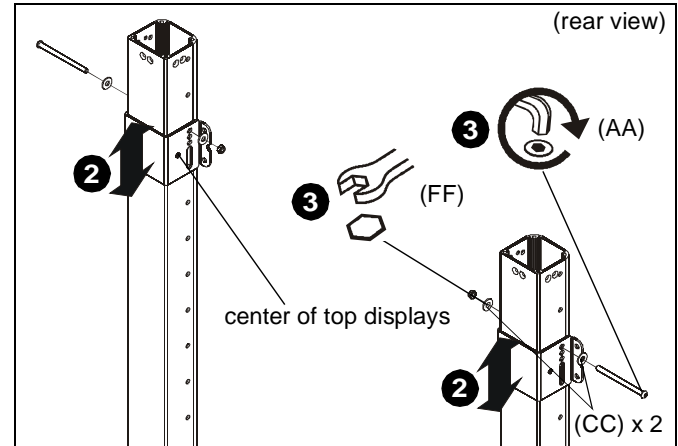

Figure 5
**IMPORTANT !** : Install all column add-ons (V), if applicable, prior to installing rails to columns.
2. Place clamp brackets (P) on columns in the position of where the center of the top displays will be on the cart with the diamond on the brackets being placed at the exact center location. (See Figure 5)
3. Use 5/16-18 x 4 1/2" button head cap screw (AA), two 5/16" washers (CC) and 5/16-18" lock nut (FF) to secure each clamp bracket (P) to column. (See Figure 5)